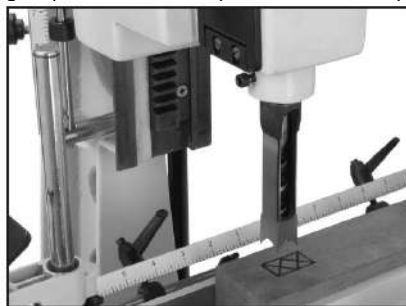

Fig 22
2. Use the table controls to align the mortising chisel with the layout lines (see Fig 22) and set the depth and table stops.